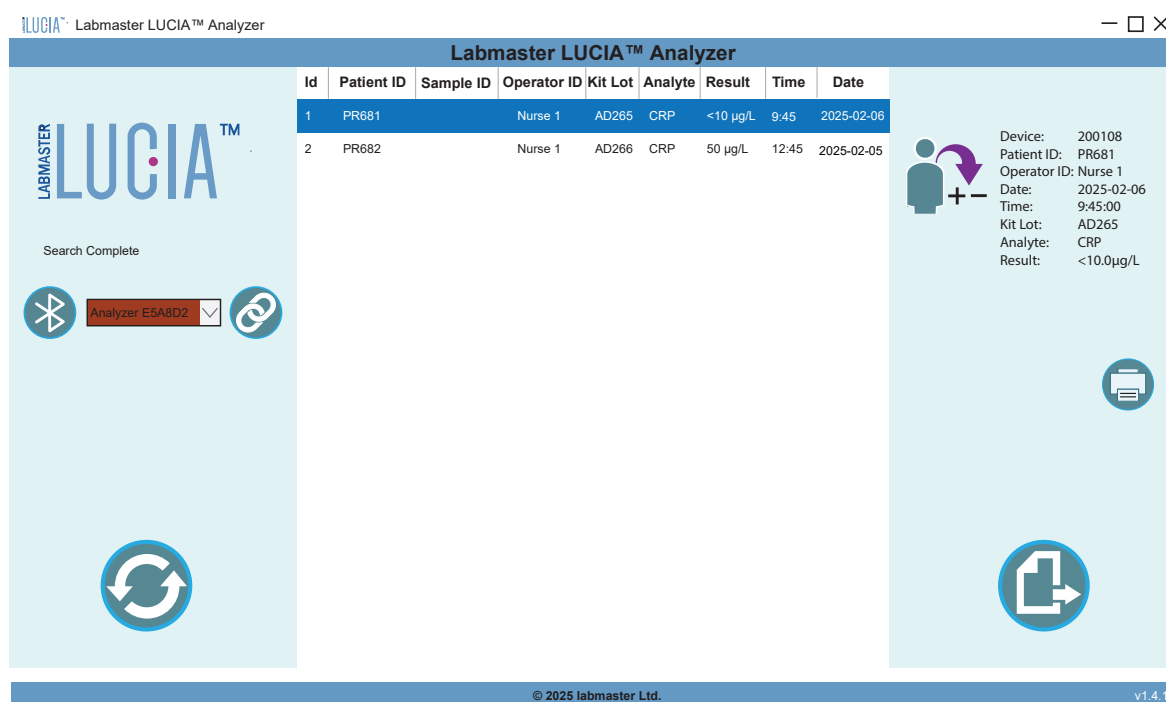

Figure 36. Labmaster LUCIA™ Analyzer Windows Application Home screen
- The application starts with Home screen as shown in Figure 36.
3. Tap the Synchronize icon  to import data from connected LUCIA™ Analyzer. See Figure 36.